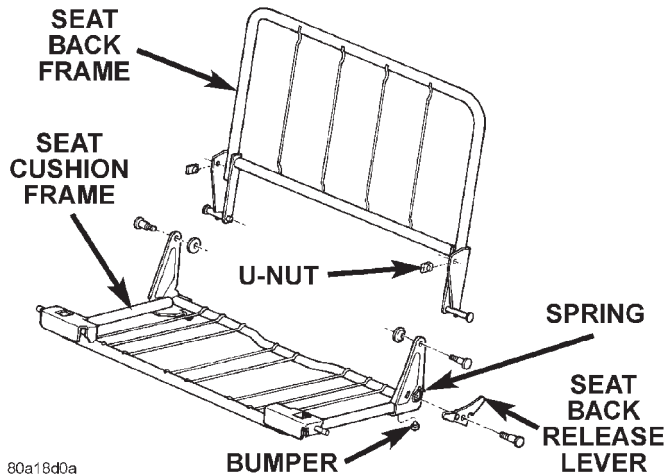

Fig. 5 Rear Seat Components
- (1) Remove rear seat from vehicle.
- (2) Remove torx bolts attaching seatback to seat cushion (Fig. 5).
- (3) Separate the seat back from the seat cushion.